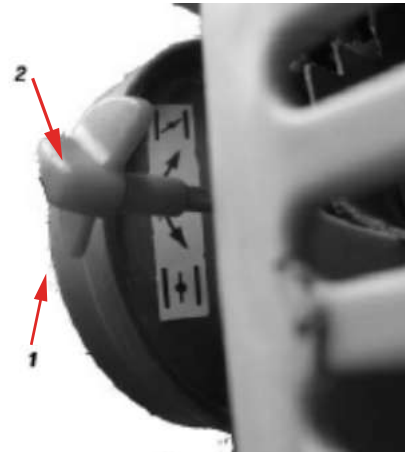

Fig 9
- circumgyrate the choke handle so that the choke is closed.(Fig.9)and pull starter handle until the engine fires.